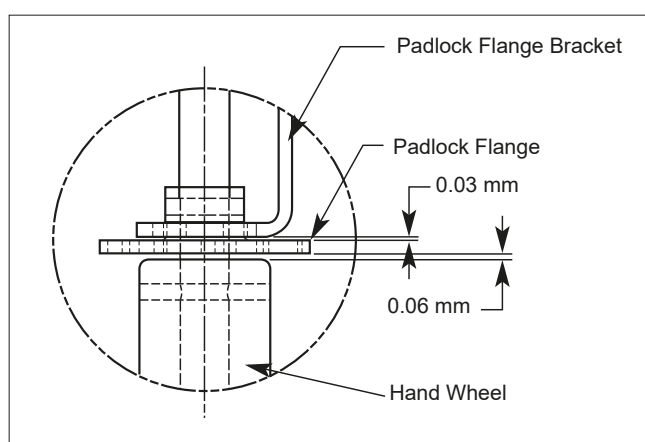

Figure 2b.
4. Insert padlock flange on shaft and shim 0.03 mm to match drawing off bracket face (**Figure 2b**). Line up hole in padlock flange with hole in input shaft.